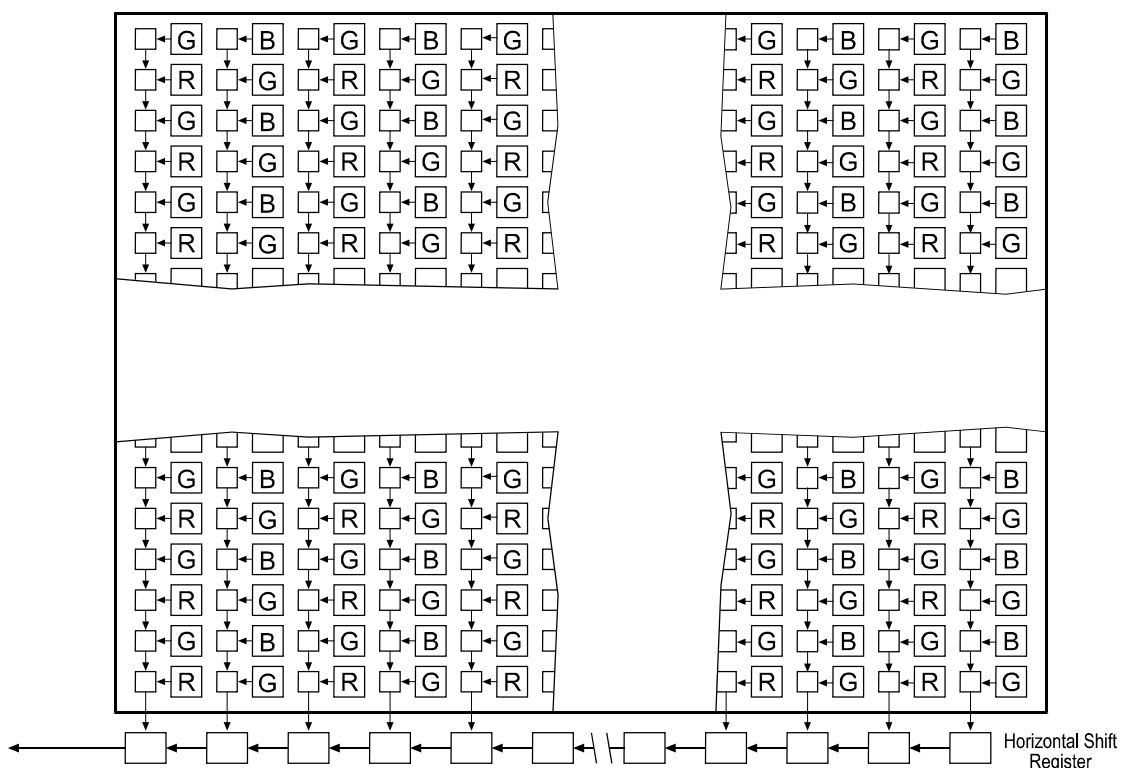

Figure 5-14: Bayer Filter Pattern on the eXcite's Sensor
The CMOS and CCD sensors used in color models of the eXcite are equipped with an additive color separation filter known as a Bayer filter. With the Bayer filter, each individual pixel is covered by a micro-lens that allows light of only one color to strike the pixel. As Figure 5-14 illustrates, within each block of four pixels, one pixel sees only red light (R), one sees only blue light (B), and two pixels see only green light (G). (This combination mimics the human eye’s sensitivity to color.)
The alignment of the Bayer filter used in the CMOS camera models of the eXcite is shown in Figure 5-14 where the first row starts with the sequence G, B, etc. Accordingly, the second row starts with the sequence R, G, etc. In the CCD camera models the first row starts with the sequence R, G, etc. Accordingly, the second row starts with the sequence G, B, etc.